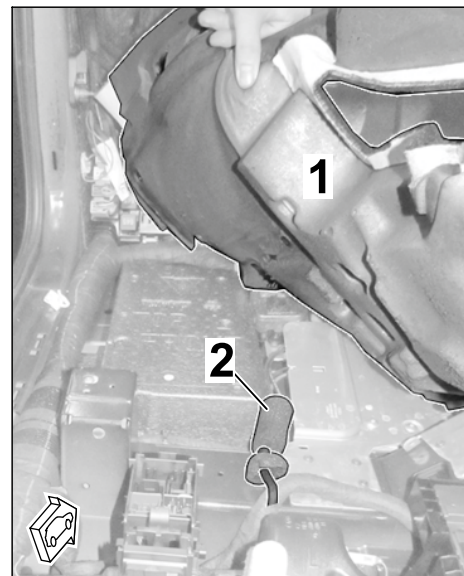

Figure 21
- 2.3.4 Loosen the front left floor covering (⇒ *Workshop Manual '704119 Removing and installing the front floor covering'*) and fold it back as far as possible (⇒ *Figure 21*).